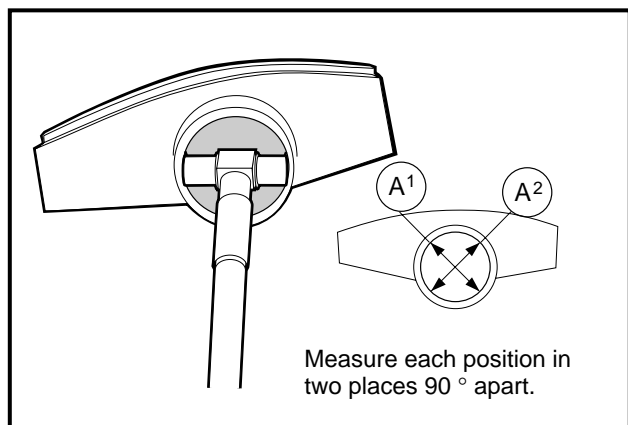

Figure 13-33 Measure Rocker Arm Bearing I.D.
1. Using a dial bore or telescoping gauge, measure the inside diameter of each rocker arm bearing at several points along its length (**Figure 13-33, Page 13-18**).